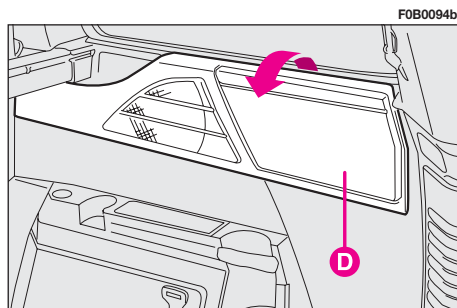

fig. 127
– document compartments **D**-**fig. 127** on the third row side panels (for versions/markets, where provided). Follow the direction shown by the arrow to open them.